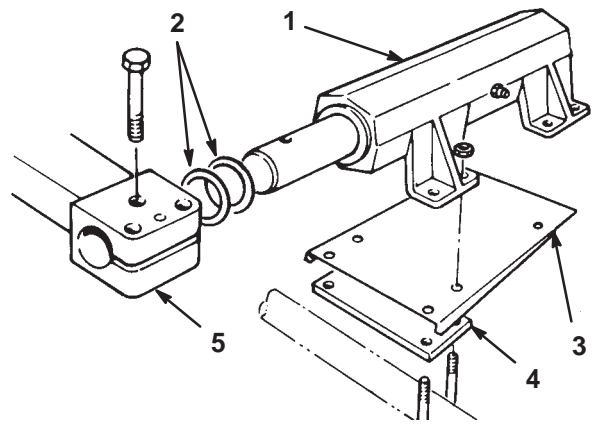

Figure 5
Mount a Fixed Head Kit Assembly (Fig. 5) to each cutting unit with a cover plate, attitude adjustment plate, U-bolts, lockwashers and nuts supplied with kits. Male end of floatation assembly to be positioned forward. Tighten U-bolts evenly.
1. Remove three metric bolts from each of the lift arms (Fig. 5).
5. Reinstall 3 lift arm bolts but do not tighten (Fig. 5).